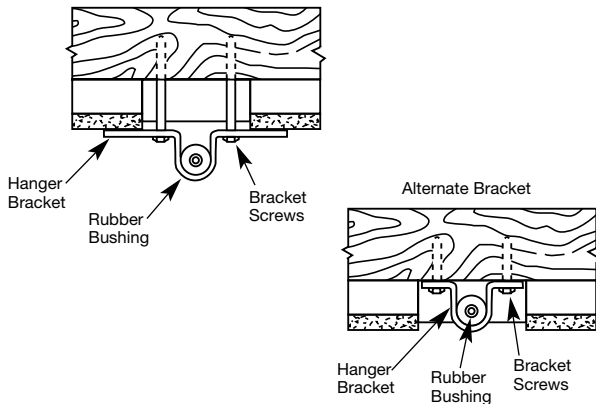

Fig. 4
- B.** Drill (2) $\frac{11}{64}$ " diameter holes through the outermost holes in the box 2" deep into the cross brace. These holes are for the bracket screws.
- C.** Use the (2) bracket screws to secure the hanger bracket to the joist as shown in Figure 4. Install rubber bushing in hanger bracket before assembling the parts to the ceiling joist. Do not use lubricant on the screw threads. For an alternate bracket that fits inside a surface-mounted box, cut 1" off each end of the bracket supplied.